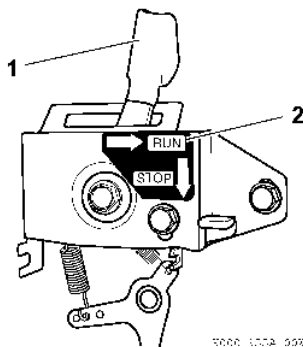

Figure 58
4. Move the engine speed control lever (**Figure 58, (1)**) to the RUN position (**Figure 58, (2)**).